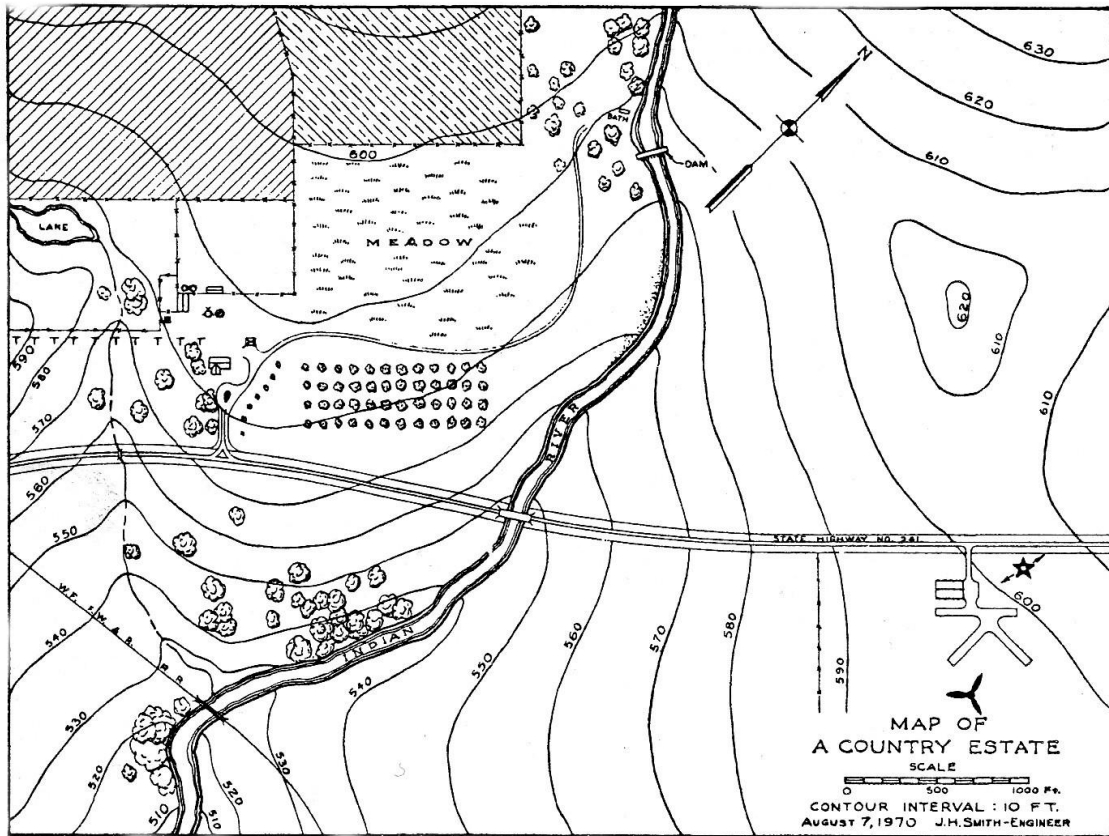

FIGURE T12.3
3. ?DRAW A TOPOGRAPHICAL MAP OF A COUNTRY STATE SIMILAR TO THAT SHOWN IN *FIGURE T12.3*.